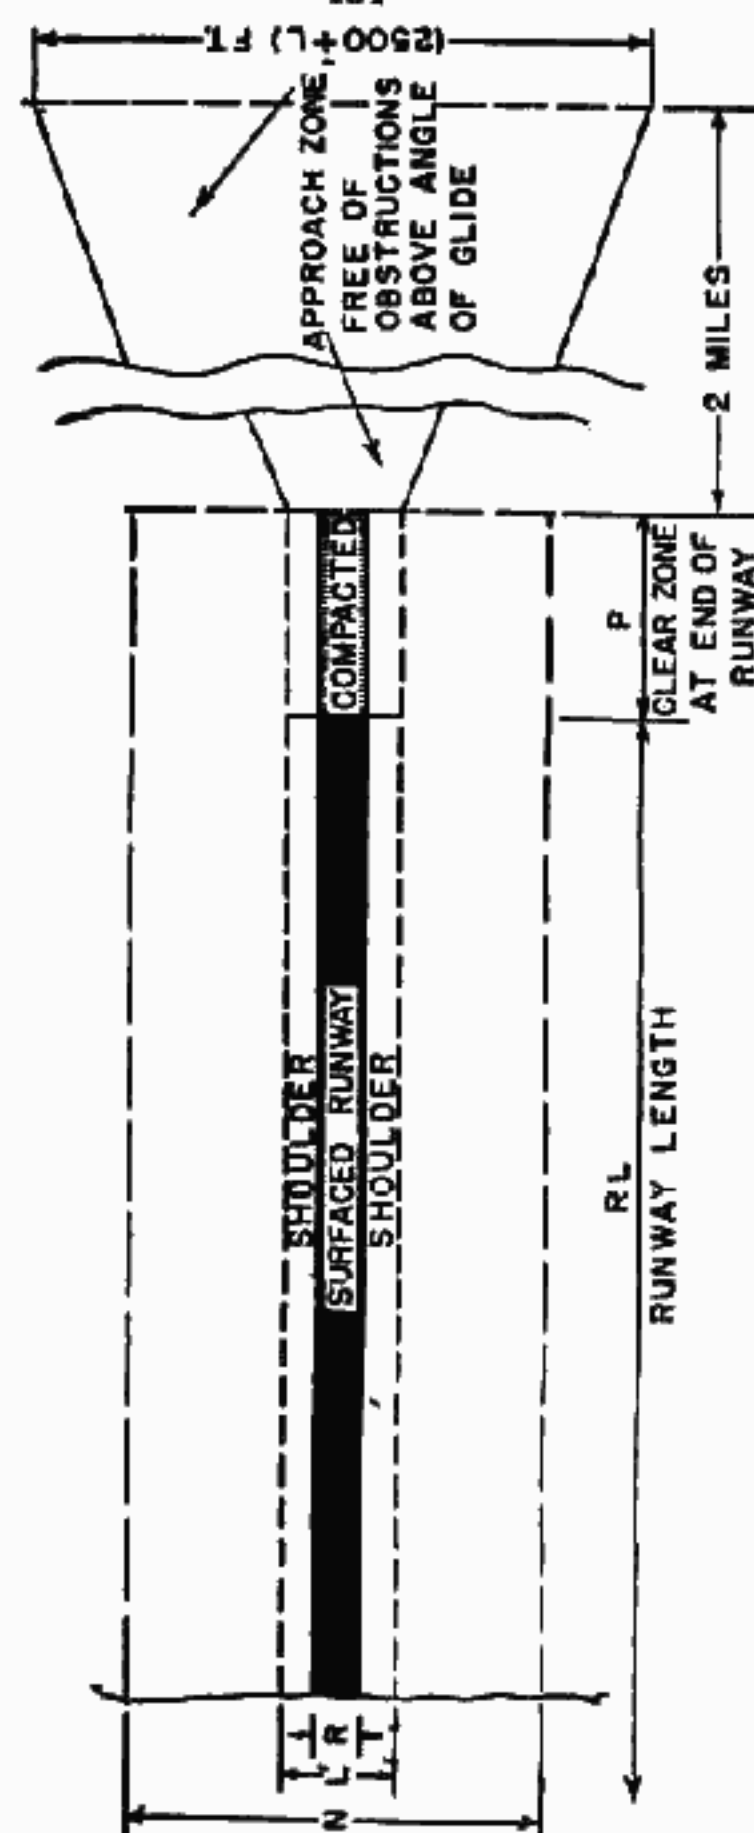

FIGURE 130.—Diagram of typical runway area.
l. *Runway*.—Paved or surfaced strip located in the center of a landing strip. (See figs. 130 and 131.)